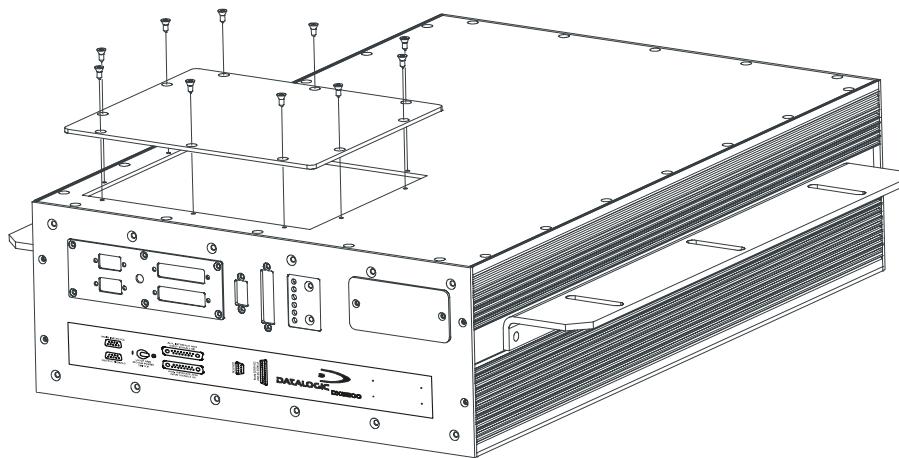

Figure 2 - Opening the DX8200
3. Carefully remove the panel as shown in Figure 2.